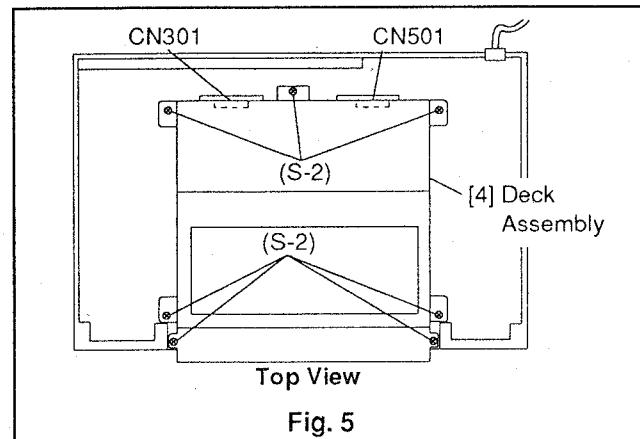

Fig. 5
- Remove 7 Screws (S-2) and (S-3). Then slowly lift Deck Assembly up. Lifting Deck Assembly disconnects 2 Connectors (CN2901, CN3501). (Fig. 5)